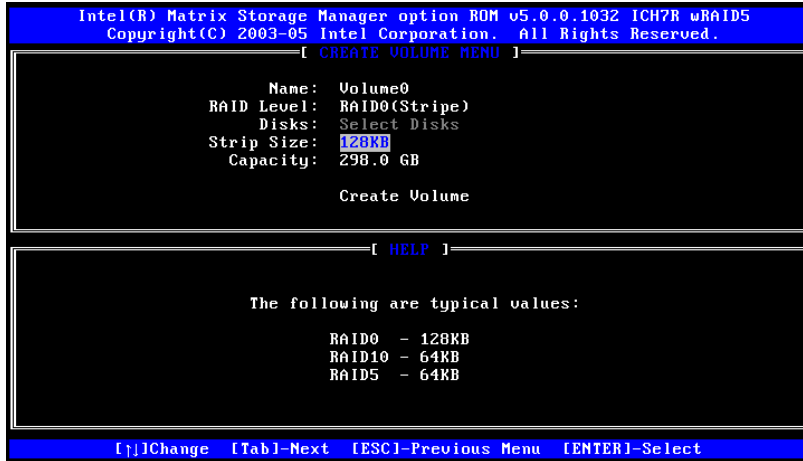

Figure D-4: Select the Stripe Size
**Step 4:** Select the Stripe Size. Select a stripe size from the list. See Figure D-4.